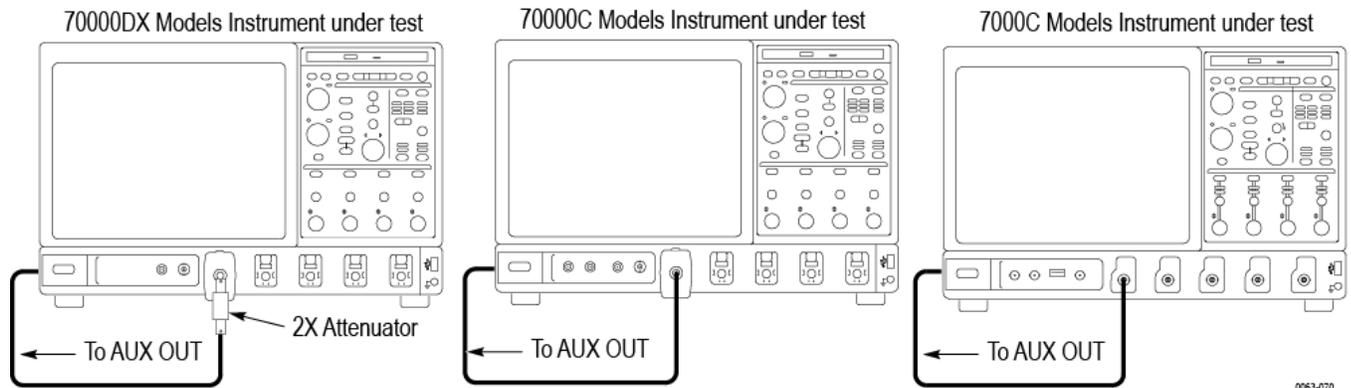

Figure 35: Aux Trigger Out test hookup
- Hook up test-signal source:* Connect **Aux Out** to **Ch 1** through a 50  $\Omega$  precision cable and an adapter. (See Figure 35 on page 317.)